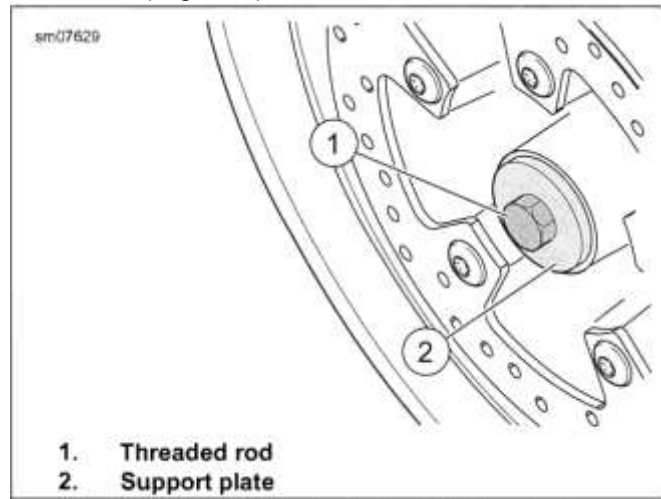

Figure 3-31. Assembling Installation Tool
1. See Figure 3-31. Assemble WHEEL BEARING INSTALLER/REMOVER (PART NUMBER: HD-44060D).
- b. Install support plate (2) onto rod (1).